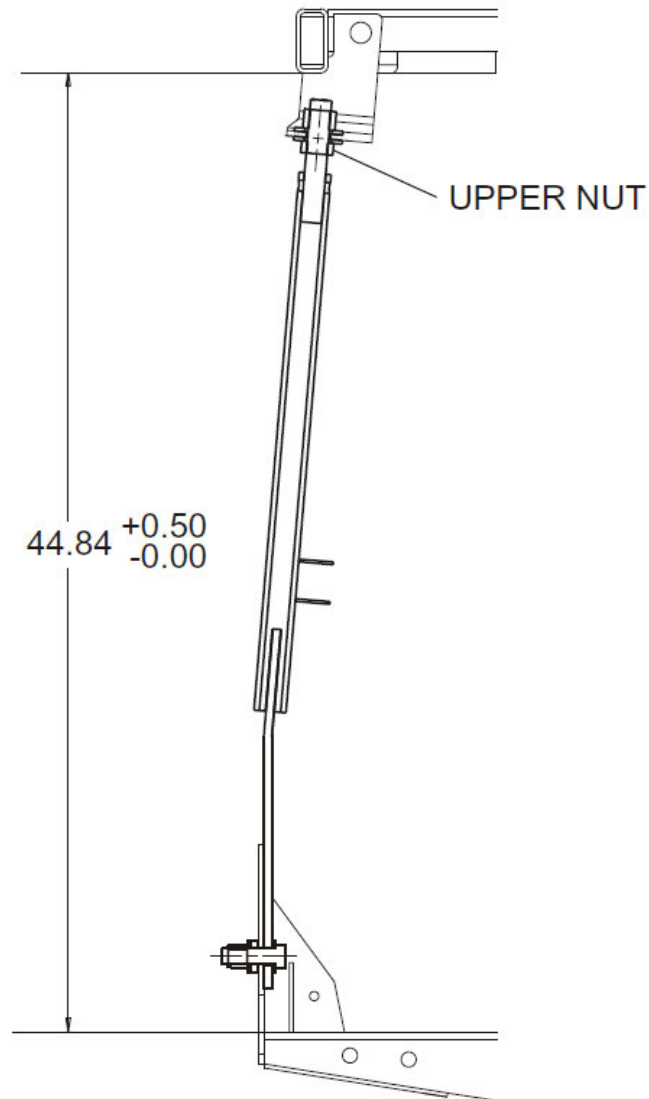

Figure 12: Strut Tensioning
27. Support strut Installation – Reference Figure 12: